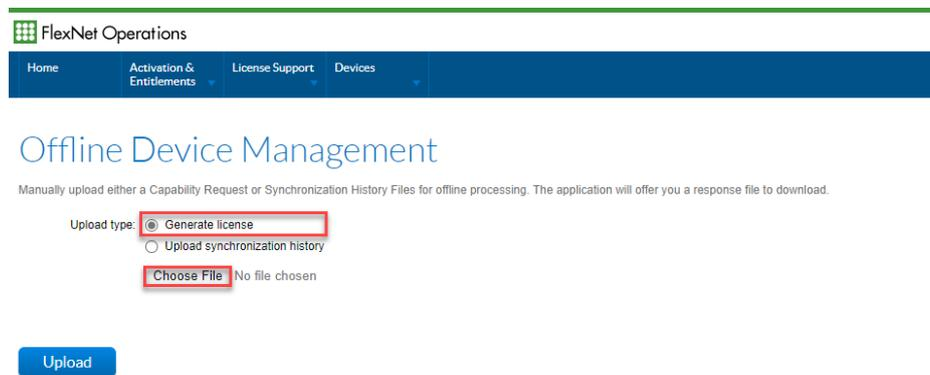

Figure 12. Offline Device Management.
16. This will open the **Offline Data Management** screen (Figure 12).